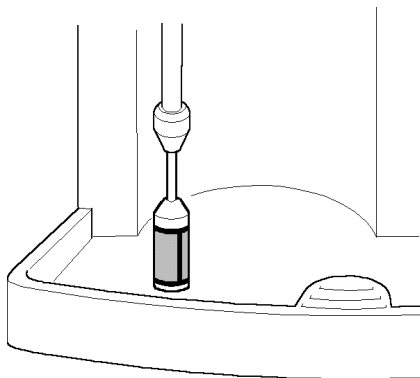

Figure 25 The filter in place
8. Push the tubing back into the probe and fit the end fitting to the end of the probe so that the end of the probe looks like Figure 25.